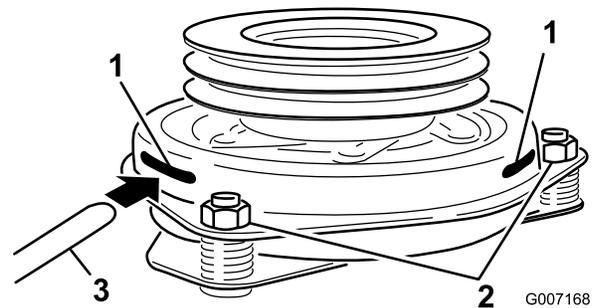

Figure 59
9. Insert a 0.381–0.533 mm (0.015–0.021 inch) feeler gauge through one inspection slot in the side of the assembly. Make sure it is between the armature and the rotor friction surfaces (Figure 59).
10. Tighten the locknuts until there is slight binding on the feeler gauge but it can be moved easily within the air gap (Figure 59).